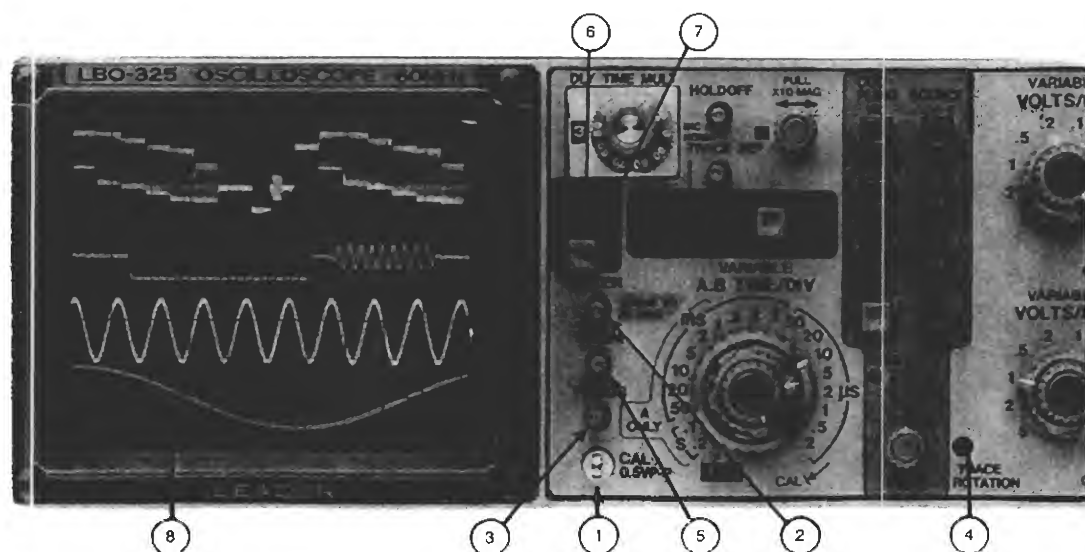

Figure 2-1. Display block
Before turning on this instrument, familiarize yourself with the controls, connectors, indicators, and other features described in this section. The following descriptions are keyed to the items called out in Figures 2-1 to 2-4.
Refer to Figure 2-1 for references (1) to (8).